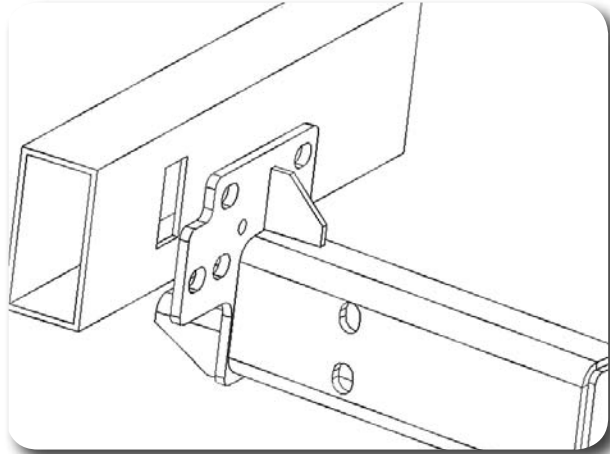

Figure 23
45. Place new relocation brackets onto bumper as shown Figure 23. The brackets are side specific and will mount to the bumper so that 'C' shapes are open toward each other when installed on the bumper.